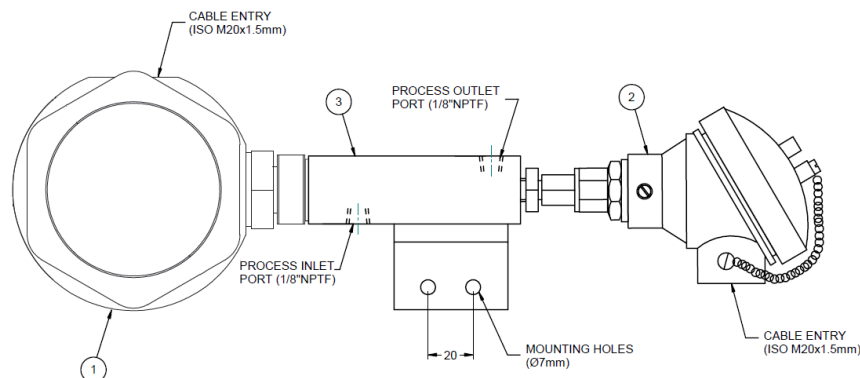

Figure 7 *Liquidew I.S. Sensor Assembly*
- c. Sample liquid connections are made via the process inlet and process outlet ports as shown in *Figure 7*. Both the process inlet and outlet ports are 1/8" NPT female ports. Michell recommends using Swagelok® 6mm to 1/8" NPT (ordering code SS-6M0-1-2) or 1/4" to 1/8" NPT (ordering code SS-400-1-2) male connectors to connect these two ports to the 6mm or 1/4" sampling system tubing. Follow standard Swagelok® installation instructions to make the connections.